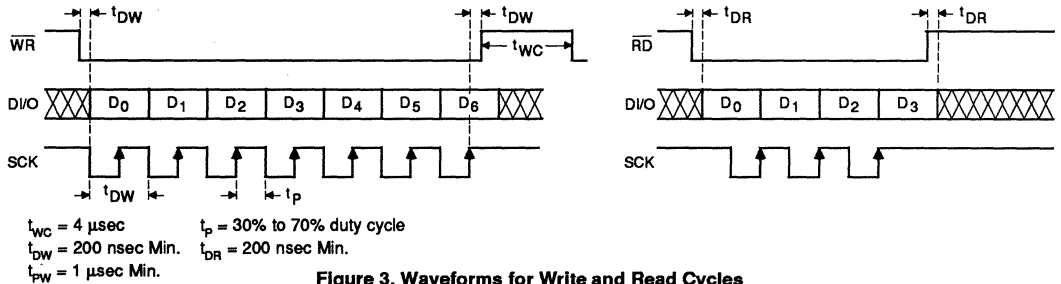

Figure 3. Waveforms for Write and Read Cycles
2. Information from the modem IC. Data is read serially from the modem when \overline{RD} is low, on rising edges of the SCK clock. (See Figure 3 for read cycle waveforms). Up to 4 data bits (D0-D3) can be read as defined below:
are shifted by repeating the above procedure. Only 7 data bits should be sent. If an 8th data bit is sent, the first data bit D0 will be lost from the input register. The received data will then be D7-D1 rather than D6-D0. To read data from the SC11015 (see timing waveforms of Figure 3), the $\overline{\text{RD}}$ line is first made low. The least significant bit D0 is now available on the DI/O line. The SCK line is toggled low and then high to shift the next data bit out of the SC11015 output register. The SC11015 shifts the data out on the rising edges of SCK. The controller should read data on the falling edges of SCK when it will be stable. Note that D0 appears on the DI/O line as soon as $\overline{\text{RD}}$ is taken low. If the controller only wants to read the status of the energy detector, there is no need to toggle SCK line. By making $\overline{\text{RD}}$ low, the energy detector level can be read by reading DI/O. $\overline{\text{RD}}$ can then be taken